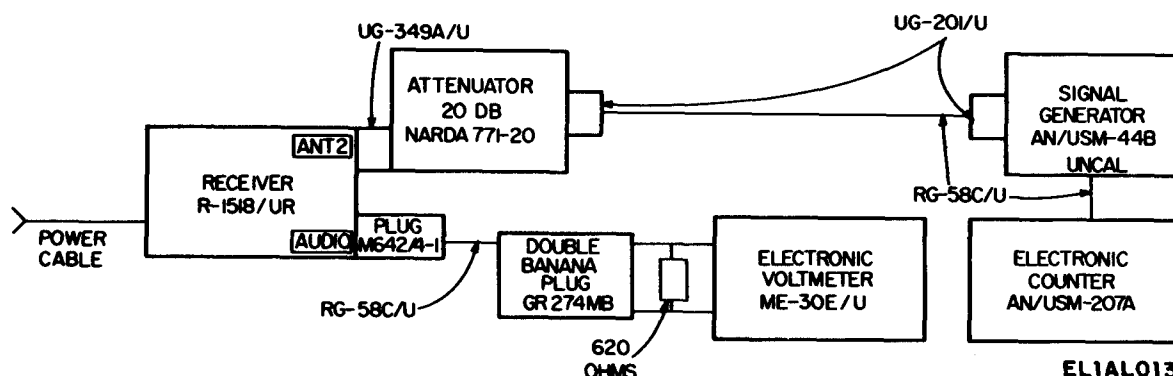

Figure 6-5. Dial readout error test connection.
- (1) Perform a (1) above.
- (2) Connect the test equipment as shown in figure 6-5.
(1) Perform a (1) above.
(2) Connect the test equipment as shown in figure 6-5.
(3) Set the receiver controls as follows: